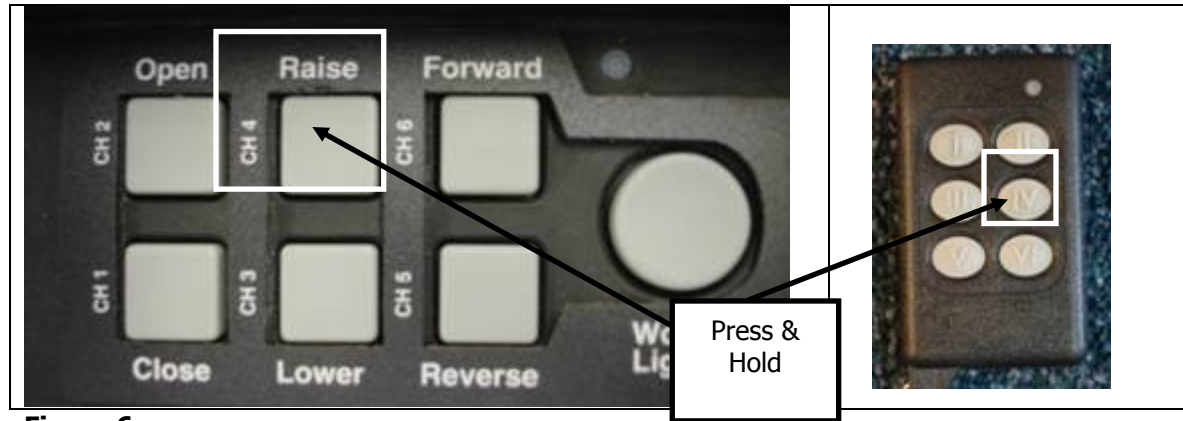

Figure 6
- 2) Let some tarp material out to take any tension off the tarp and if you have an adjustable tower, raise tower to maximum height to prevent the tarp from dragging on the load. To raise tower press & hold button 4 on your control box or key fob (see Fig. 6). For non remote control systems there will be a manual valve to operate your tower.